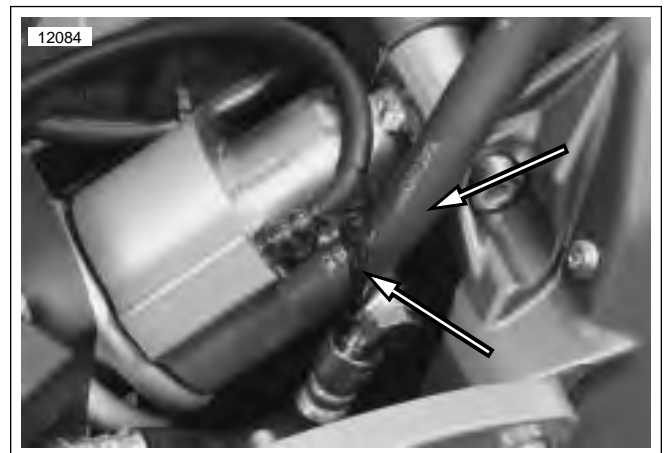

Figure 3-26. Transmission Vent Line
35. See Figure 3-26. Cut the cable strap holding transmission vent line and pull vent line out of frame leaving it attached to engine.